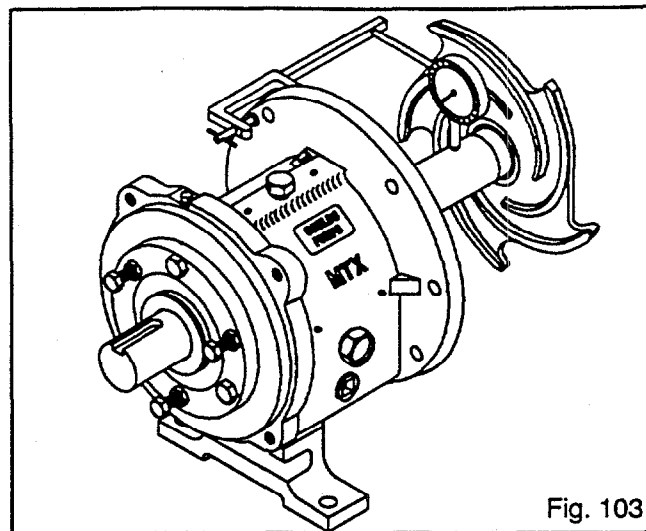

Fig. 103
3. Check shaft/sleeve runout. Put on shaft sleeve (126) if used, and thread on impeller, hand tight. Rotate shaft 360 degrees. If total indicator reading is greater than .002 in., disassemble and determine cause. Remove impeller and shaft sleeve (Fig. 103).